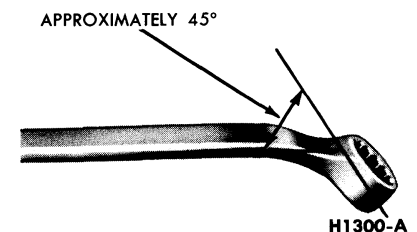

FIG. 5—Wrench for Bleeding Brake
1. Position a bent $\frac{3}{8}$ -inch box wrench on the bleeder fitting on the right rear brake wheel cylinder (Fig. 5). Attach a rubber drain tube to the bleeder fitting. **The end of the tube should fit snugly around the bleeder fitting.**
3. Position a $\frac{3}{8}$ -inch box wrench on the bleeder fitting on the right rear brake wheel cylinder (Fig. 5). Attach a rubber drain tube to the bleeder fitting. **The end of the tube should fit snugly around the bleeder fitting.**